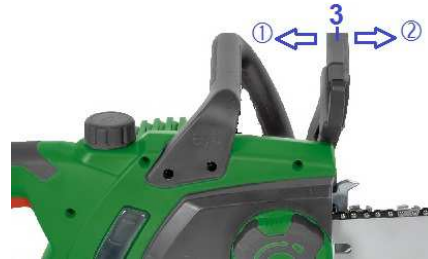

Fig.6
1. The chain brake is disengaged (i.e. chain can move) when brake lever (3) is pulled backwards and locked towards the front handle (① Fig.6).
2. The chain brake is engaged (chain is locked) when brake lever (3) is pushed away from the front handle in forward position (② Fig.6).
1. Hold the chain saw securely and firmly by the front (11) and rear (7) handles.
3. Press the hand guard (3) toward the front (② Fig.6). This action should cause the chainsaw and motor to stop immediately.
Switch off the machine, then pull the front hand guard (3) backwards (position ① Fig.6) until it locks. The chain brake is operational again.
-  Before starting the chainsaw, ensure to loosen the chain brake, by pulling the front hand guard (3) towards the front handle (11).